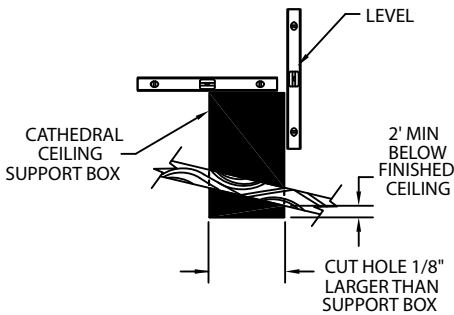

Figure 20
**Step 4.** Lower the Support Box through the hole in the roof until Support Box protrudes at least 2-inches below the low side of the ceiling (**Fig. 20**). Align the Support Box both vertically and horizontally with a level. Temporarily tack the Support Box in place through the inside walls and into the roof sheathing.